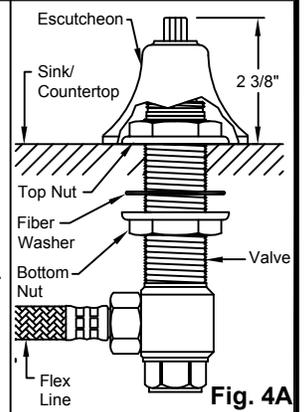

Fig. 4A
- Insert valve through hole from below and install top nut, and adjust to proper height. (See Fig. 4A), (repeat for other valve).